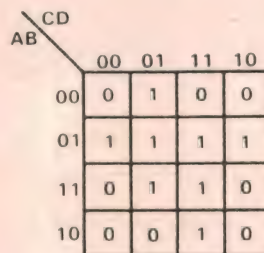
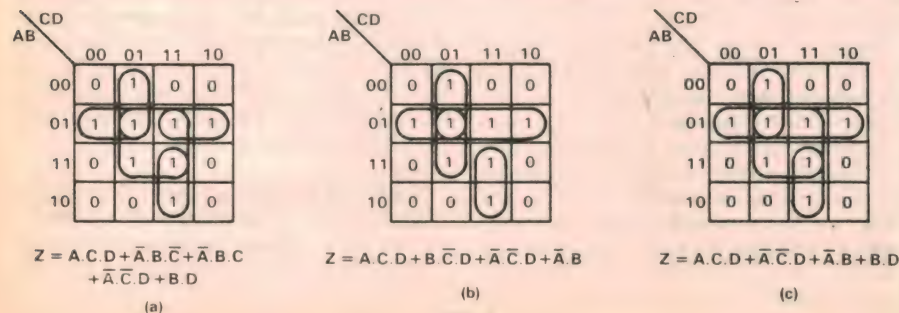
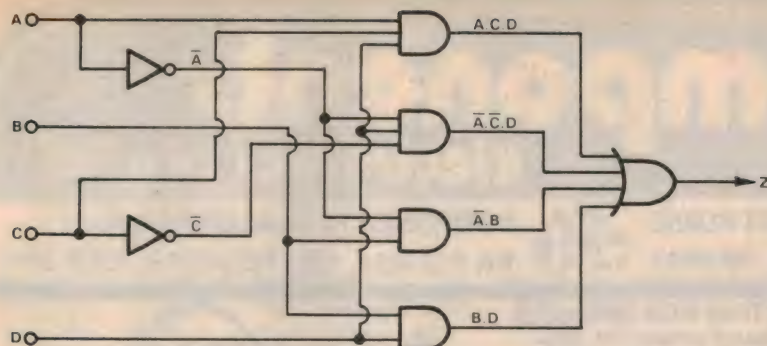

FIG. 3
FIG. 5
FIG. 6
Our next step is to draw up a Karnaugh map grid for the number of terms involved—here four, and place a 1 in each of the cells which correspond to the truth value combinations shown in (1). To keep the example simple, let us assume that the output of the circuit should be false for all remaining combinations, so that we can place a 0 in all of the other cells. We thus end up with a map of the required function, as shown in Fig. 3.
As it happens, our example of Fig. 3 does not involve this type of loop. However it does have a number of possible "correct answers", which is a situation that often occurs. In other words, a complex function may not have just a single "minimal" form, but may have a number of minimised forms which from the logical point of view may be equally basic. Which of these may be most desirable from a practical point of view will usually depend upon considerations other than
Three of the possible groupings for the example of Fig. 3 are shown in Fig. 5, together with the corresponding simplified logic expressions. Of the three probably the solution in (c) would be the most attractive from a practical point of view, because it results in an expression containing only four main terms, two of which contain only two of the original input terms.
The direct logic diagram equivalent to the map looping and symbolic expression of Fig. 5(c) is shown in Fig. 6. As you can see, it would call for seven logic elements in all: a single 4-input OR gate, two 3-input and two 2-input AND gates, and two inverters.